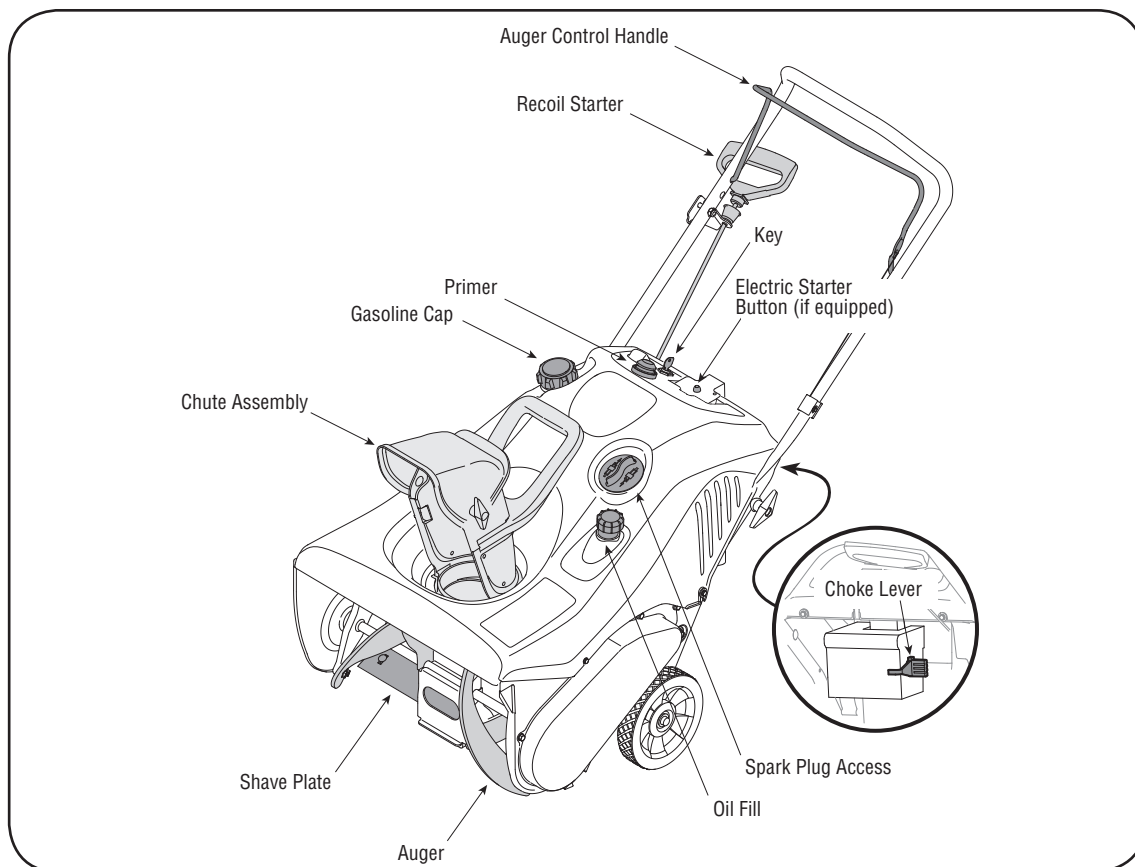

Figure 4
2. Now follow the instructions below as it pertains to your unit. See Figure 4 for location of controls.